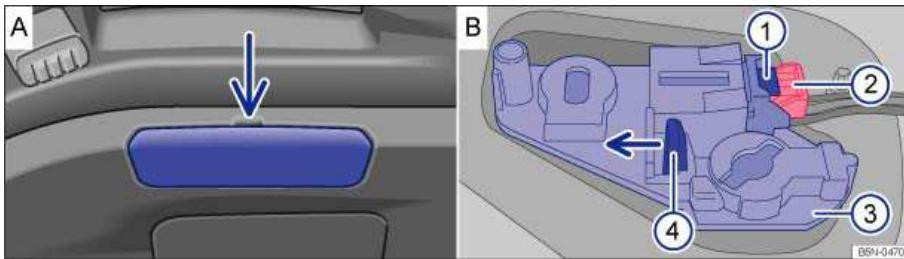

Fig. 208 In the rear hatch: Removing the cover and the bulb holder.
3. Using the screwdriver from the vehicle tool kit carefully pry the cover off with the flat blade of the screw driver inserted in the opening ⇒ fig. 208 A (arrow).
4. Remove the red locking mechanism (2) B as illustrated and disconnect the electrical connector with the lever pressed down (1) B.
5. Press the locking tab (4) B in the direction of the arrow and remove the bulb holder (3) B.
8. Insert the electrical connector into the bulb holder until it clicks into place. Press the red locking mechanism (2) B back in.